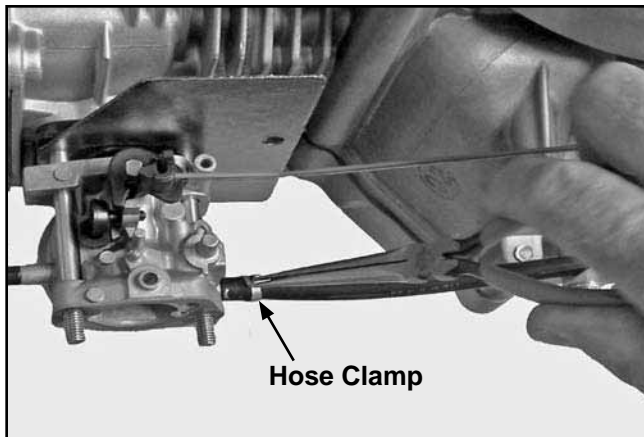

Figure 8-13. Disconnecting Fuel Line.
1. Squeeze the hose clamp and slide it and the fuel hose off the carburetor. See Figure 8-13.